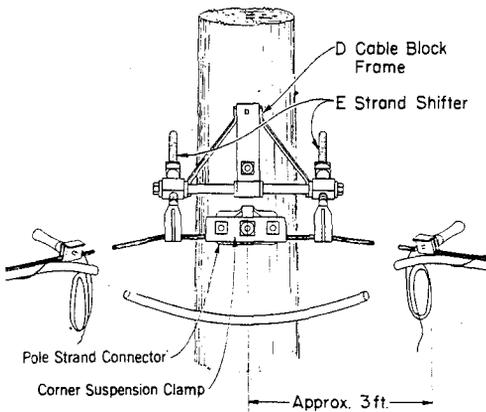

Fig. 16—E Strand Shifter Installed on D Cable Block Frame
7.05 The E strand shifter is used with the D, E, and F cable block frames at inside and outside corners to move prelash cable and strand into position for attachment to the suspension clamp. The method of installing the E strand shifter on the D, E, and F cable block frames is shown in Fig. 16, 17, and 18, respectively.